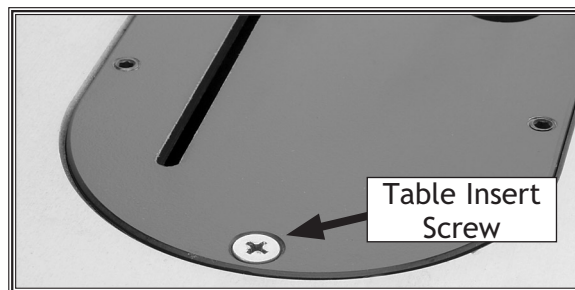

Figure 26. Table insert screw.
2. Place the table insert into the table and tighten the M5-.8 x 20 flat head screw shown in **Figure 26**.